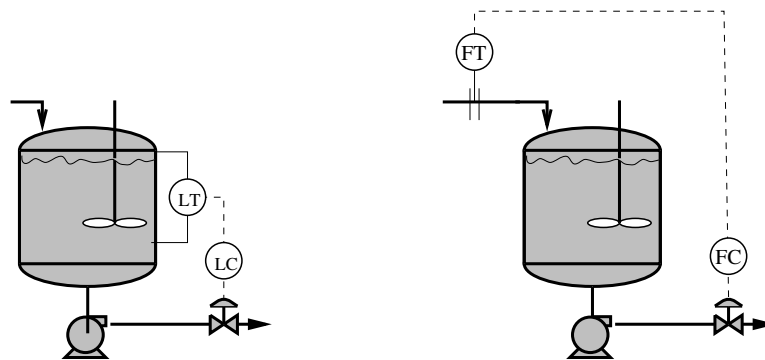

Figure 1.4 Two different control systems used to control a tank in Problem 1.6 (Extra).
- 1.6 (Extra)** Two different control systems are shown in Figure 1.4. Both can be used to control the level in a tank. What control strategy is used in each case? Draw block diagrams for the two control systems.